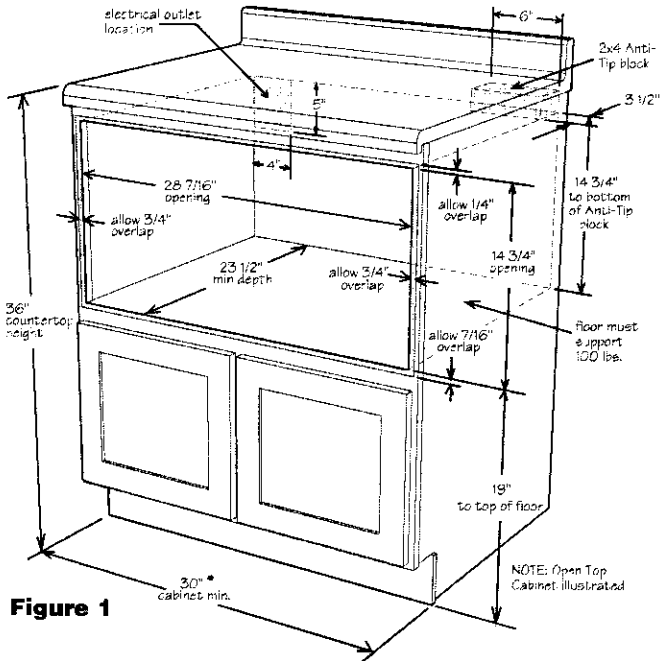

Figure 1
For SAFETY CONSIDERATIONS do not install drawer in any combustible cabinetry, which is not in accord with the stated clearances and dimensions on pages 2 and 3. See Figures 1 and 2.
- Dimensions that are shown in Figures 1 and 2 must be used. Given dimensions provide minimum clearance. Locate electrical outlet in the shaded area in the upper left-hand corner of the cutout.
Figures 1 and 2 contain many Microwave Drawer measurements for reference when planning the drawer's location.
To reduce the risk of tipping of the drawer, the Anti-Tip block must be properly installed located 14 3/4-inches above the floor on which the Microwave Drawer will sit. The 6-inch 2 x 4 Anti-Tip block must be provided by the installer. See Figures 1, 2 and 4. The Anti-Tip block prevents serious injury that might result from spilled hot liquids.